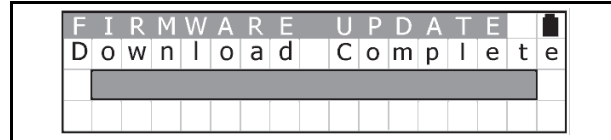

Figure 17 Software Download Complete Screen
- After the Software Download is complete (See Figure 17), the LCD Screen will display the